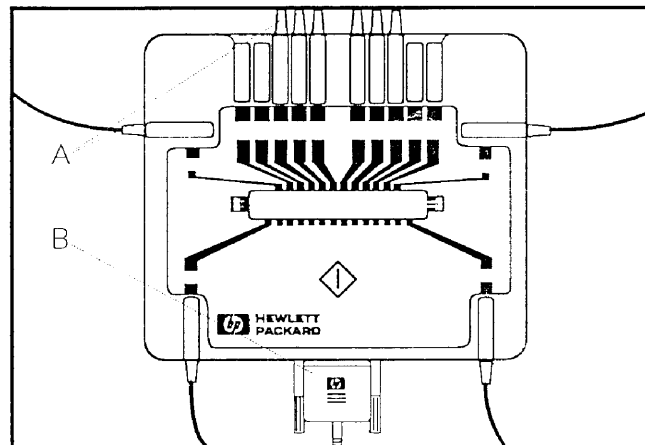

Figure 2-4. Connecting the Patient Module.
2. Connect the other end of the patient data cable to the patient module as shown in Figure 2-4.